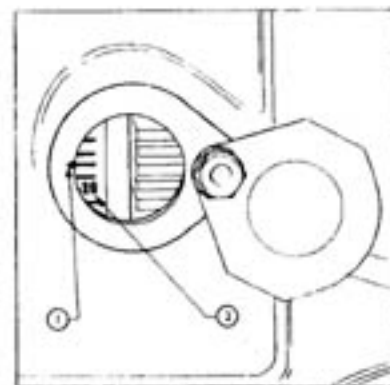

FIG. 12
- b. For engines not equipped with timing scale, it will be necessary to remove aperture cover on flywheel housing (in lower sector, starboard side) in order to check setting from markings on periphery of flywheel (See Figure 12). In marine use this may be difficult due to engine bed interference. A small mirror may be of assistance.